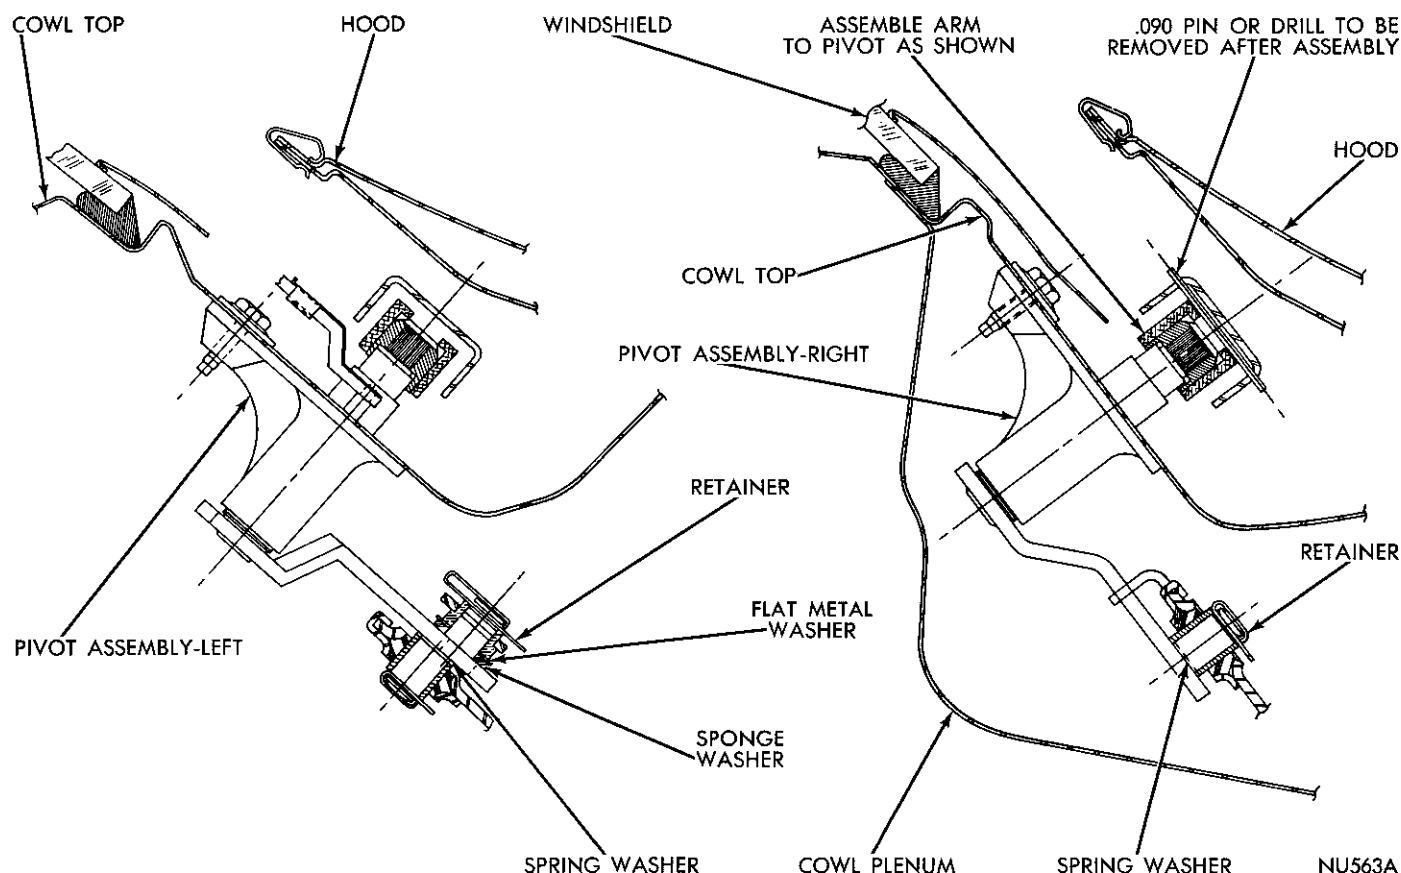

Fig. 5—Pivot, Arm and Link (Sectional)
(1) Disconnect battery ground cable.
(2) Remove the crank arm nut and crank arm from motor shaft.
(3) Remove bolts mounting left and right pivots to body (Fig. 5).